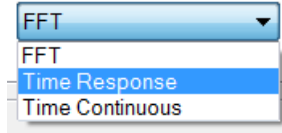

Figure 27 Plot type combo box
**FFT or Time Response.** Both un-damped and damped vibration level data can be displayed in either frequency domain or time domain. Select either FFT or Time Response from the pull-down menu for the desired view (Figure 27). The FFT resolution is 0.19 Hz.